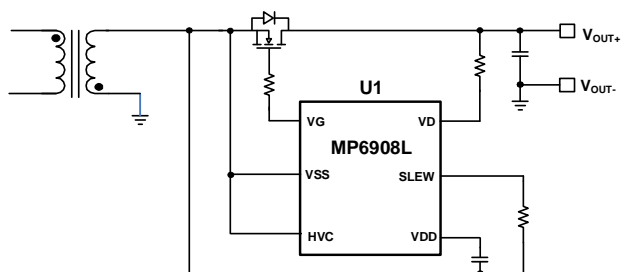

**Figure 7: High-Side Rectification when HVC is Connected to a Secondary Ground (VDD Regulated at 9V)**
**Method 2:** Figure 7 shows when HVC connected to the secondary ground through an external diode. In this scenario, VDD is generated from HVC, and regulated at 9V.